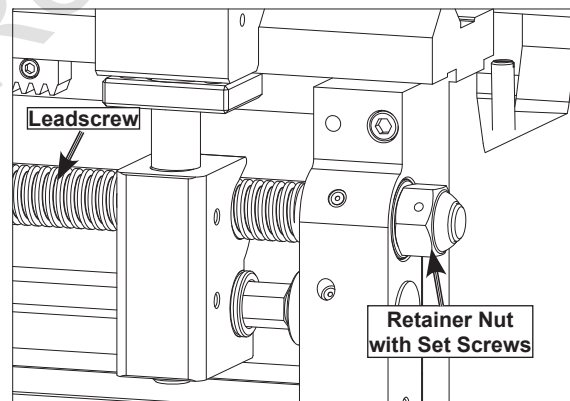

Figure 76. Leadscrew end play adjustment.
3. Loosen both retaining nut set screws shown in Figure 76.